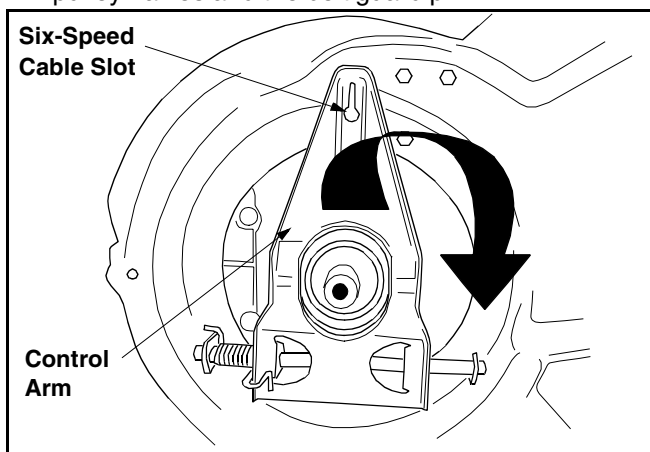

Figure 21
- Pivot the control arm back to its original position and reinstall the six-speed cable into the slot. See Figure 21.